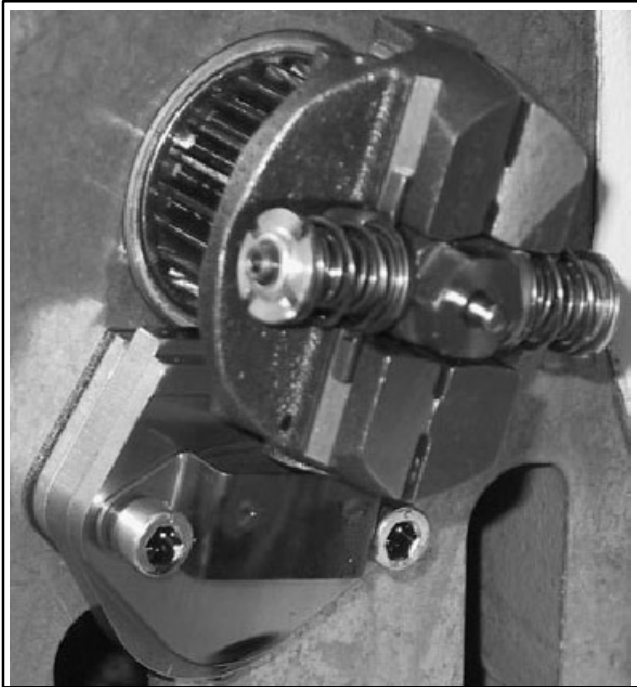

Figure 5-20 Engine Speed Adjustment
11. With the engine stopped, adjust both the cross slotted nuts so that their upper surfaces are at the same height as the governor bolt. See Figure 5-20.